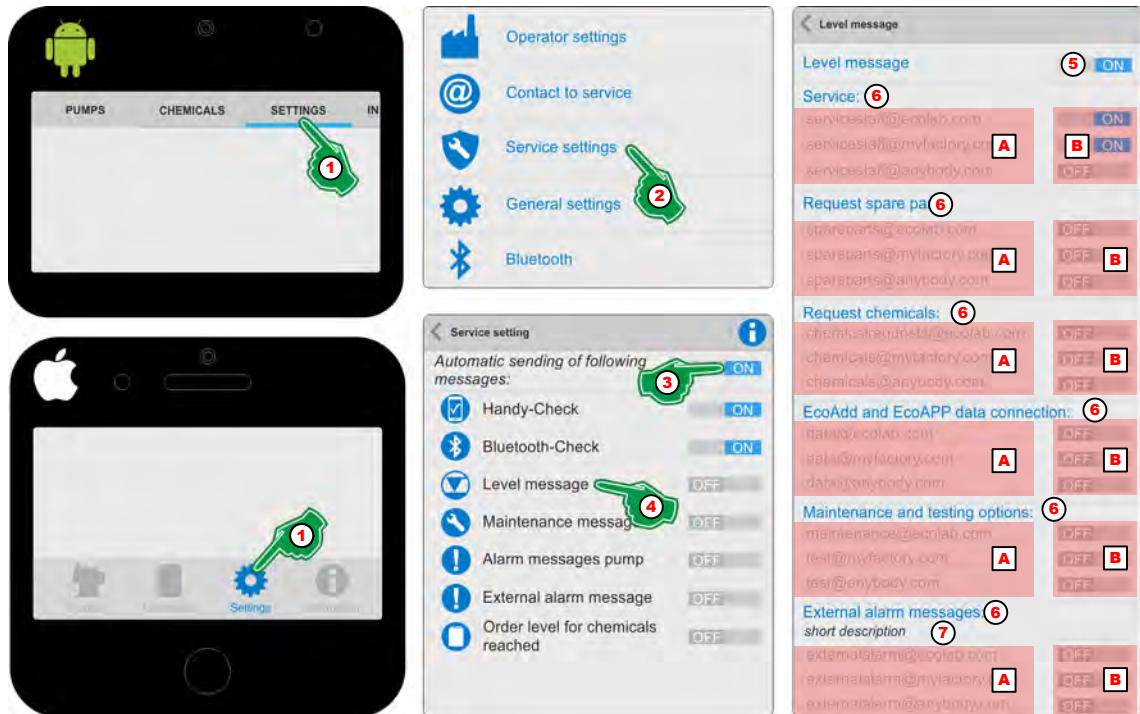

Fig. 47: 'Level message'
1.  Select [Settings] (Fig. 47, Pos. 1).
2.  Select [Service settings]  (Fig. 47, Pos. 2).
3.  Turn on 'Automatic sending of following messages' (Fig. 47, Pos. 3) **ON**.
4.  Select the symbol 'Level message'  (Fig. 47, Pos. 4).
5.  Turn on 'Level message' (Fig. 47, Pos. 5) **ON**.
6.  Turn on the desired service contacts (Fig. 47, Pos. A) **ON** (Fig. 47, Pos. B).
7.  To display errors when using an external controller (Fig. 47, , Pos. 7) introduce a brief description (Fig. 47, Pos. 8) for identification.